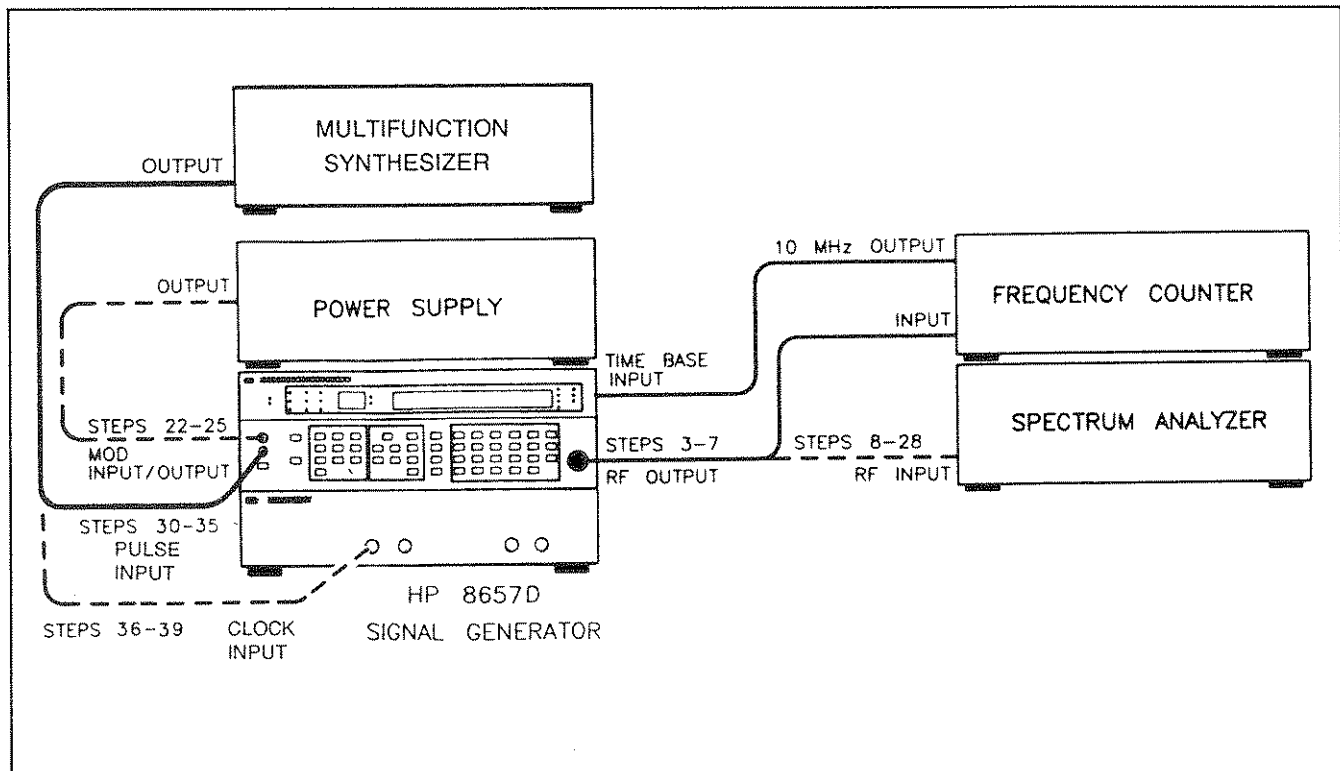

Figure 3-8. Test Setup for Basic Functional Checks
3. Connect the RF OUTPUT of the HP 8657D to the input of the frequency counter, and the 10 MHz reference output from the frequency counter to the TIME BASE INPUT located at the rear of the HP 8657D as shown in Figure 3-8. The two instruments are now locked to the same time base.
- Connect the RF OUTPUT of the HP 8657D to the input of the spectrum analyzer as shown in Figure 3-8.
24. Connect a power supply to the MODulation INPUT/OUTPUT Connector of the HP 8657D as shown in Figure 3-8. Set the power supply for a +1 Vdc output and switch the voltage line on. Notice the LO EXT annunciator will remain on. The carrier frequency displayed on the Spectrum Analyzer should move three divisions to the right. The carrier frequency is offset by 60 kHz.
33. Connect the multifunction synthesizer to the HP 8657D PULSE INPUT, as shown in Figure 3-8.